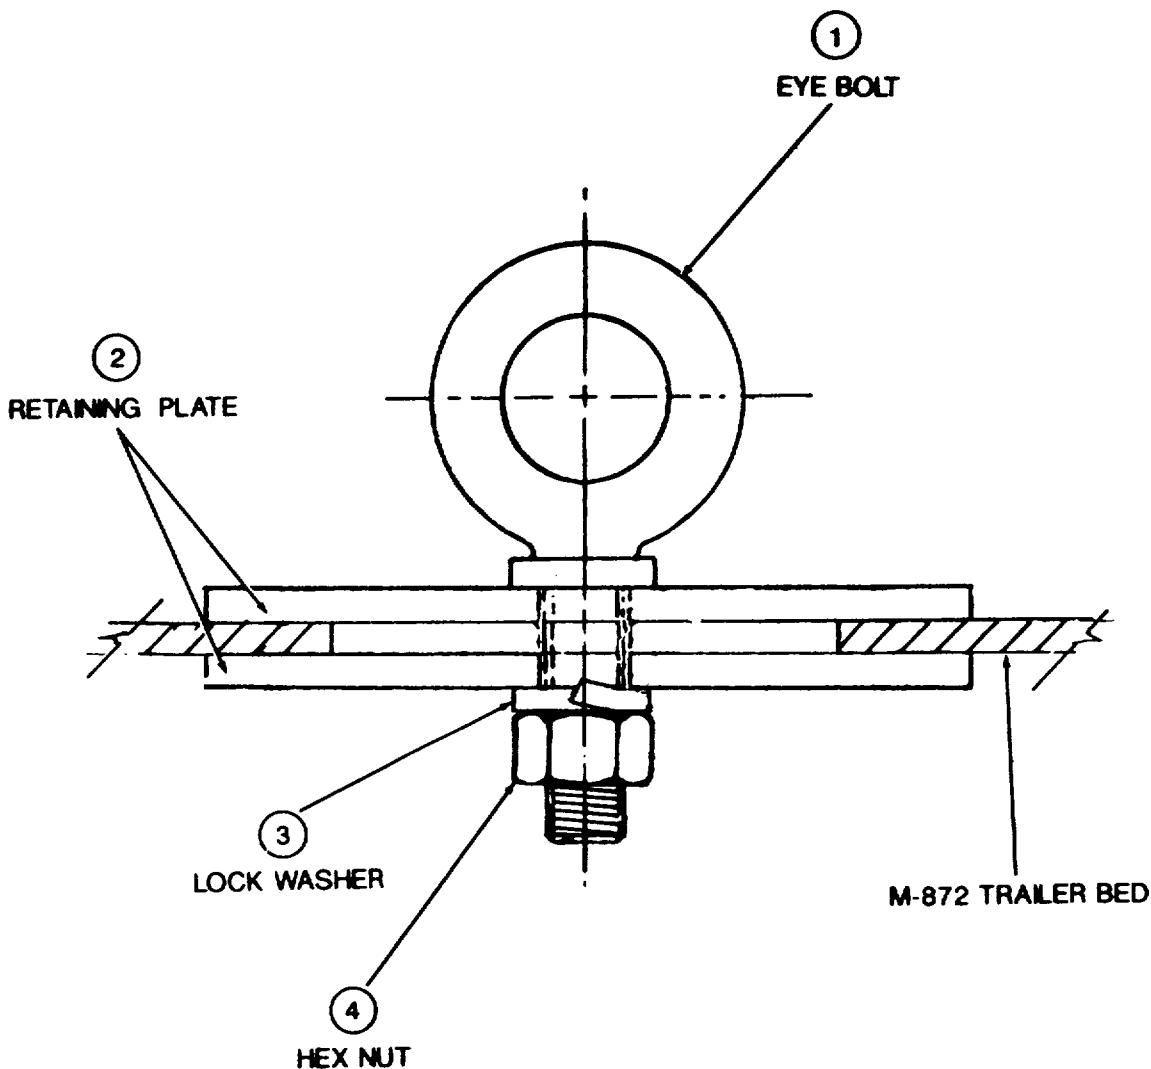
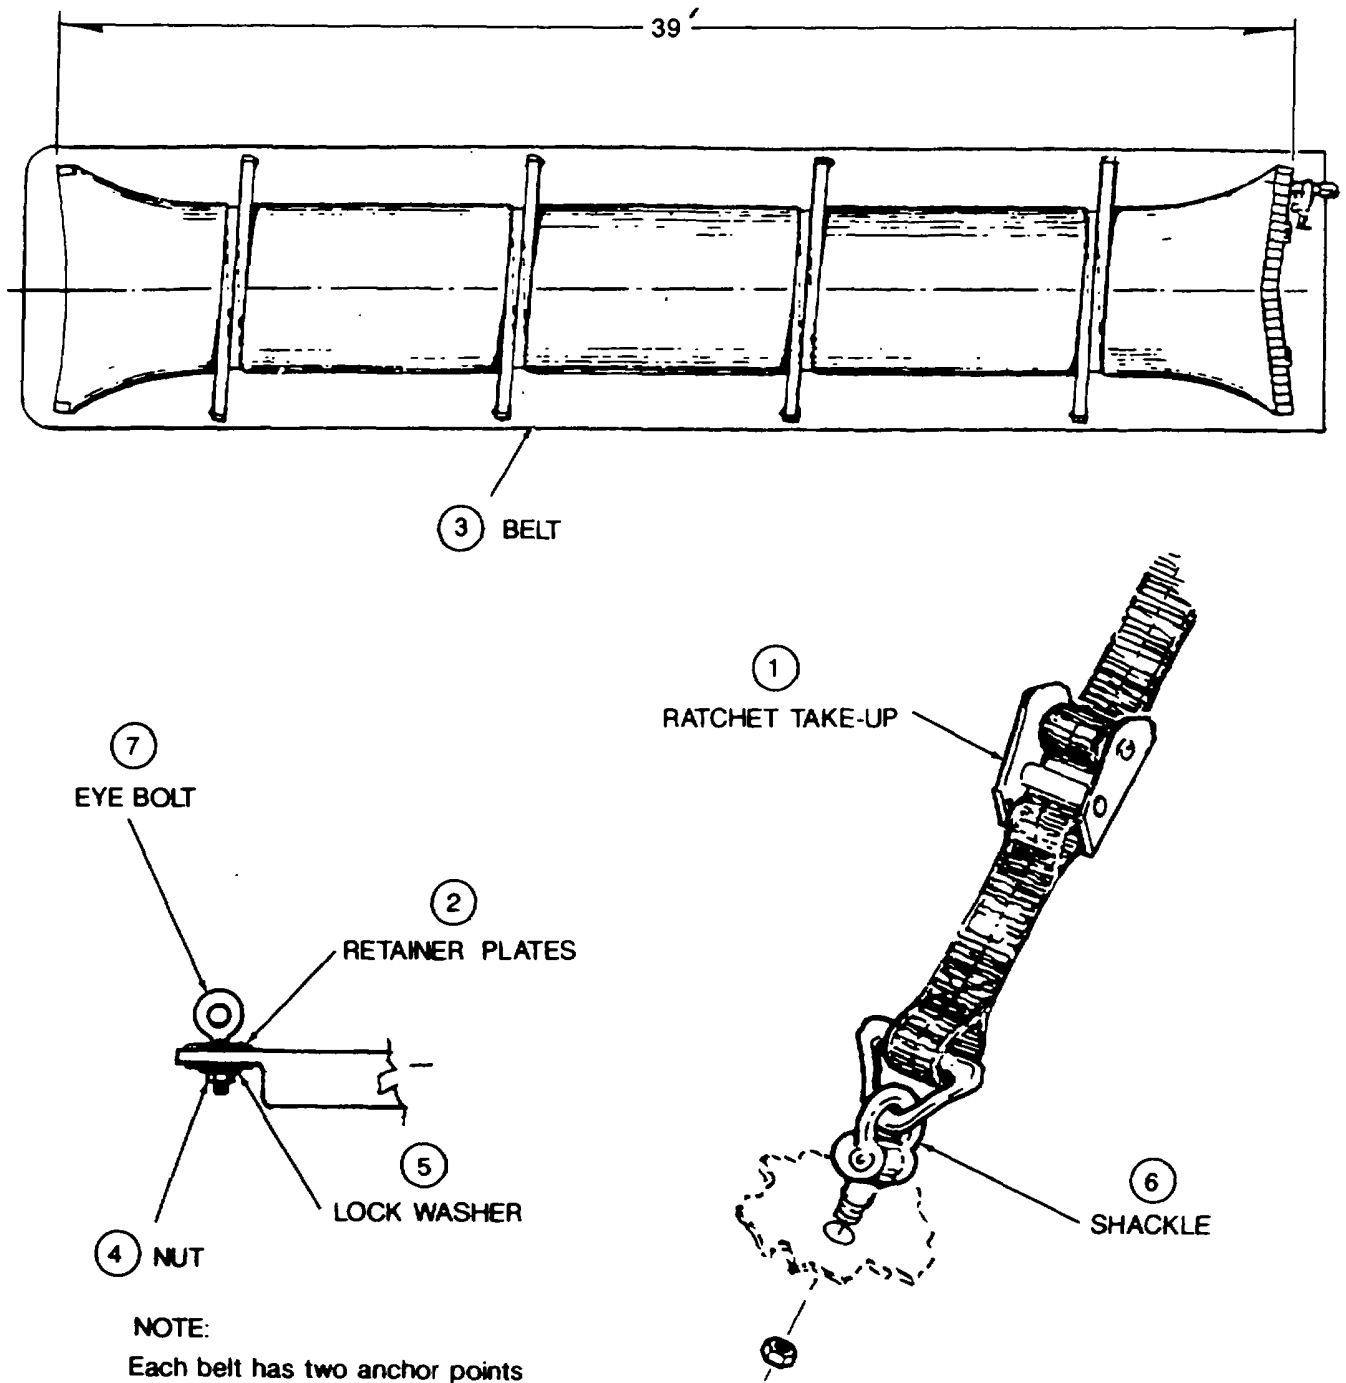

Figure 2-2. Semi-Trailer Anchor Assembly
Figure 2-3. Tie-Down Assembly (Model 5,000gallon)
- (1) Clear truck bed of splinters, protruding nails and other foreign objects that could puncture or chafe the tank. Place bed cloth on truck bed forward; unroll to rear (Model 91094 only).
- (2) The tank shall be secured to the trailer with a four-belt tie-down kit. This kit is made and assembled in accordance with Figs. 2-2 and 2-3 or 2-3A. There are two anchor points (Fig. 2-3 or 2-3A) per strap to provide maximum support to the tank during transport. Each anchor point consists of a 5/8" diameter eyebolt, two retaining plates, one 5/8" hex nut, one lockwasher assembly and, for Model 91094 Tie-down Assembly, one flat washer.
- (3) Locate the anchor points as shown in Figure 2-2 and install as shown in Fig. 2-3 or 2-3A. For Model 5,000 gallon only, re-check the area for sharp objects. If the surface is rough and jagged, it will be necessary to place plywood or a tarpaulin down for the tank to rest upon.
- (4) Attach the ratchet take-up mechanism to each anchor point by using a shackle between the eye-bolt and delta ring on the ratchet take-up mechanism.
- (5) Lay the tie-down straps crosswise to the length of the semi-trailer bed as shown in Fig. 2-3 or 2-3A. Make sure the belts are centered accurately between the eyebolts. Let the remaining portion of the belts lay over the side of the trailer. Care should be taken to insure that each strap is not twisted and is laying flat. The area is now prepared for tank unfolding.
- d. Replace tie-down assembly (Figure 2-3 or 2-3A).
- (1) Remove and replace tie-down belts if frayed, tom, or cut.
- (2) Remove and replace eyebolt lockwasher or nut if mutilated or if threads are stripped or damaged.
- (3) Remove and replace ratchet take-up, shackle, or other damaged hardware.